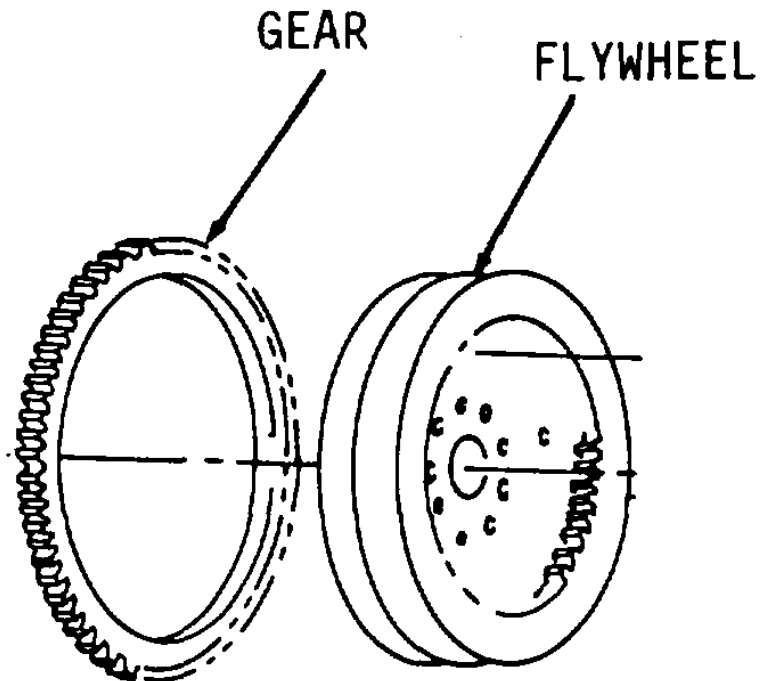

Figure 13-36.
1. Inspect gear and flywheel (Figure 13-36). Replace gear if teeth are broken, chipped or cracked.
1. Using oven, heat gear (Figure 13-36). Do not exceed a temperature greater than 600 degrees F.